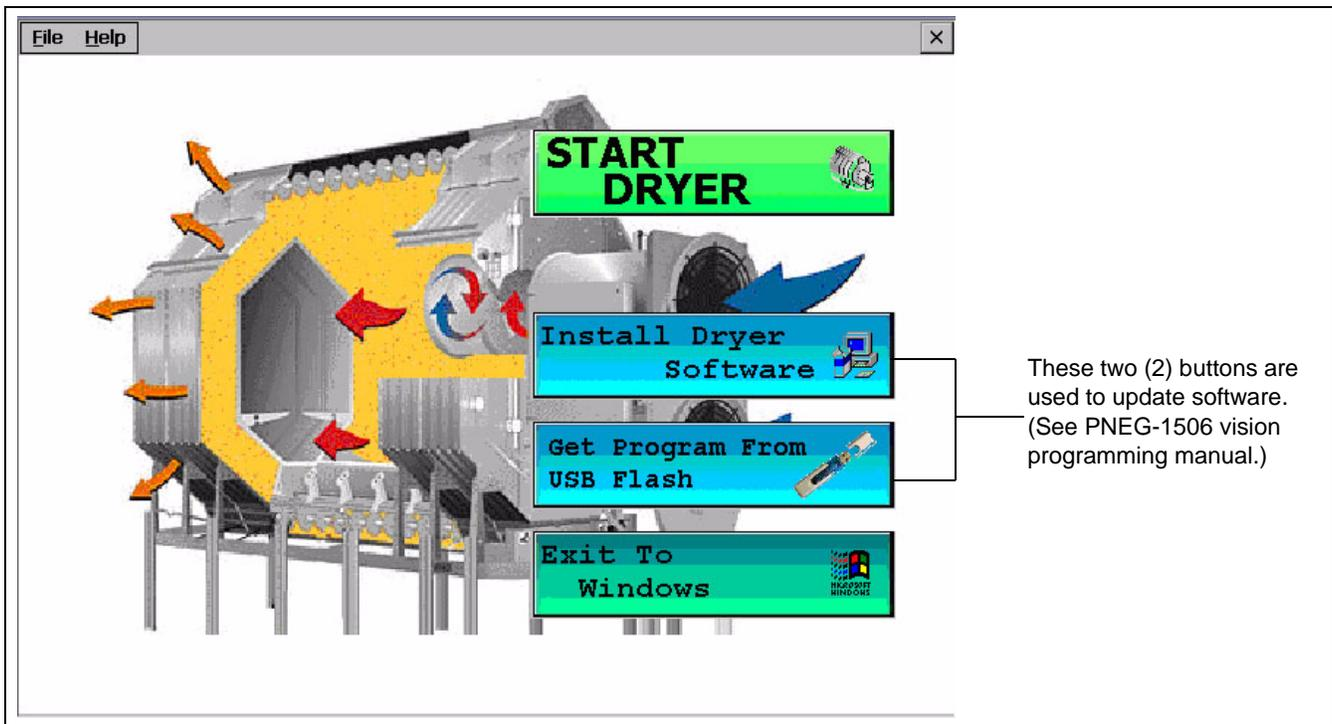

Figure 6A
With the Power switch in the ON position, pushing the Start switch will start the vision computer. The first screen to appear will be the Boot screen. (See Figure 6A.) Notice that there are four (4) “buttons” on the Boot screen. The update/change program and look for new program on Flash Card buttons are only used for program updates that may be released at a later date. Touching the Start Dryer button will display the Default Operation screen.